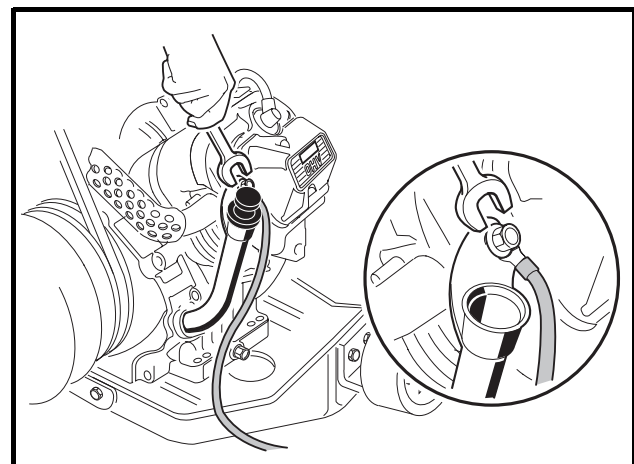

Figure 16-47 Engine Ground Wire
24. Attach the ground wire to the mounting screw on the oil filler tube mounting bracket and tighten to 50 in-lb (5.7 N·m) (**Figure 16-47, Page 16-17**).